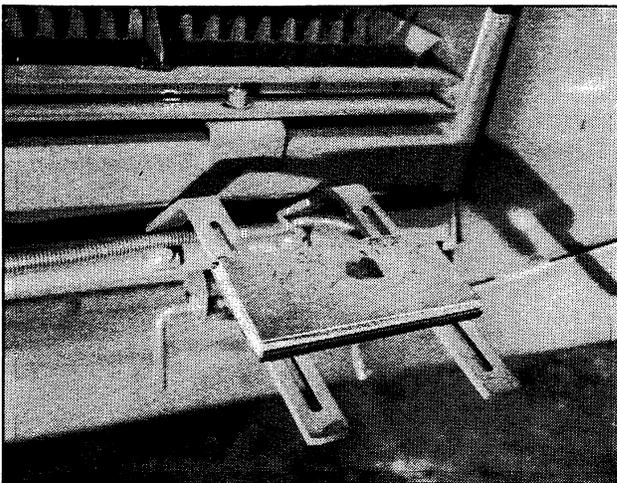

FIGURE 2-12: Grain Loss Monitor
1. Set grain loss monitor to minimum sensitivity and have a helper tap grain loss sensor pad with finger (Figure 2-12). Monitor LED bargraph should jump from top to bottom and back.